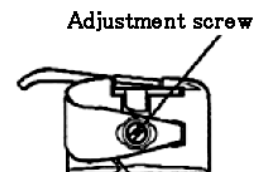

Fig.4
1. Turn the bobbin case adjustment screw, adjust the lower thread tension.(Fig. 4)